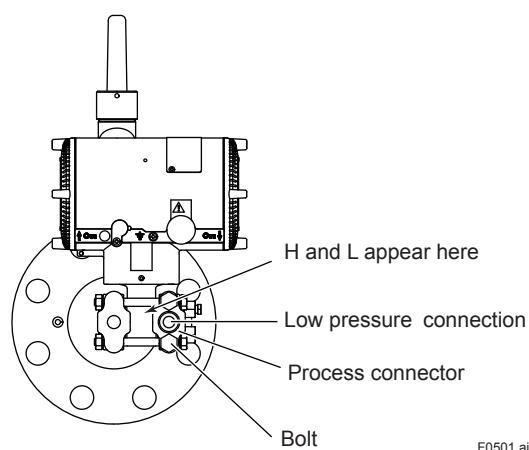

Figure 5.1 H and L Symbols on a Capsule Assembly
(1) Check the High and Low Pressure Connections on the Transmitter (Figure 5.1)